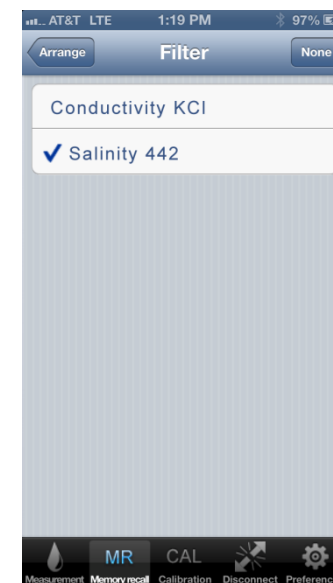

Figure 30
- EXAMPLE, if there have been no records made of TDS measurements, TDS will not appear as an available option under the Measurement Type category (see Figure 30).